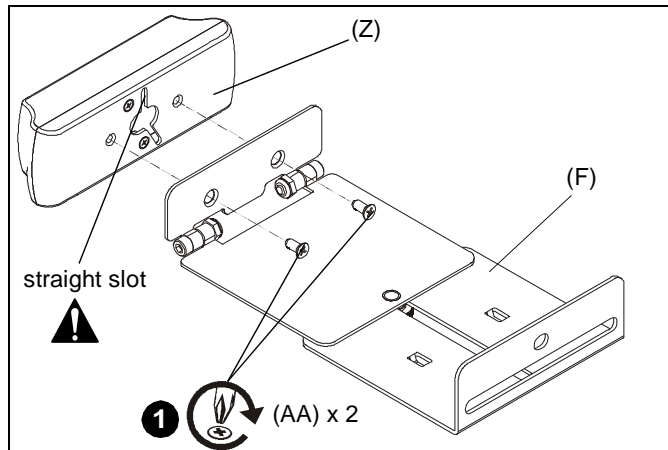

Figure 1
1. Attach camera housing (Z) to camera mount (F) using two #8-32 x 3/8" Phillips flat head machine screws (AA). (See Figure 1)
IMPORTANT ! : Make sure straight slot on camera housing is pointing in the proper direction. (See Figure 1)